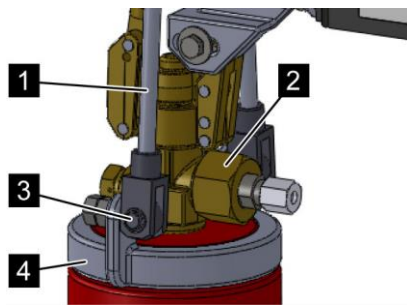

Fig. 73: Screw in the adapter
➔ Fit retaining rods (Fig. 73/1) onto the ring bolts from above and fasten to the suspension element (Fig. 73/3) with snap bolts (Fig. 73/4).
10. ➔ Screw the adapter (Fig. 73/2) with seal into the control connection of the valve.